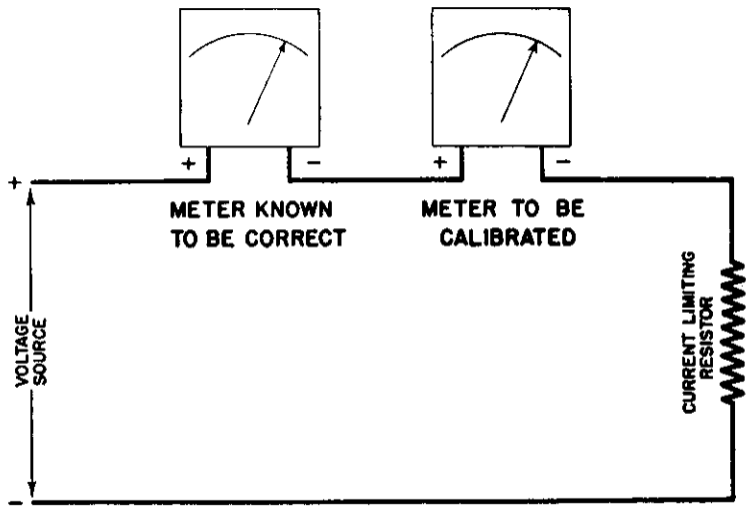

Fig. 5
**Ammeters may be checked for calibration** by placing the meter to be checked in series with a meter of known accuracy, correcting any small irregularities by means of the pivot adjustment on the face of the meter being calibrated. (See Figure 5.)
**To measure current beyond the scale of an ammeter** place a shunt or low-value resistor of sufficient power rating to carry the excess current across the terminals of the ammeter. To find a (K) for this shunt take a reading of a given current within the range of the meter